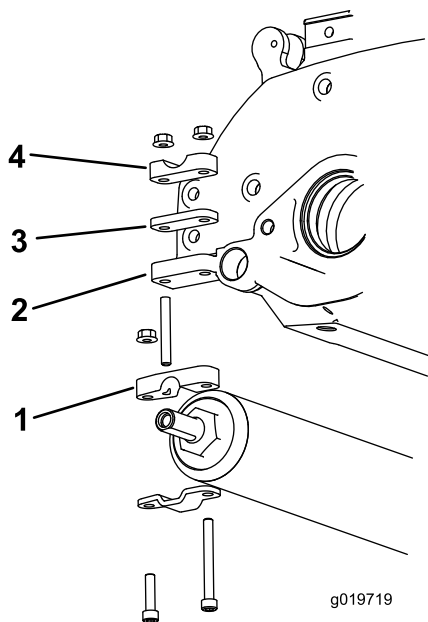
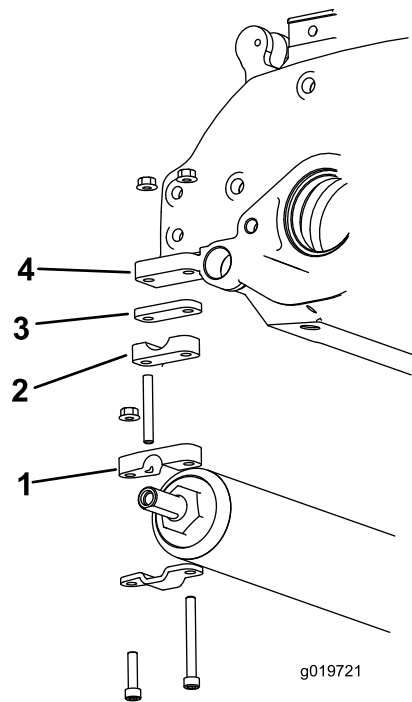

Figure 3
Figure 5
3. Install the new roller, new roller spacer assembly, new roller spacer, and existing shim to the side plate mounting flange with a new retainer and bolts. Make sure the flats on the roller shaft align with the flats on the new retainers. Refer to Figure 3 through Figure 5 to determine the position of the components to attain the desired height of cut.